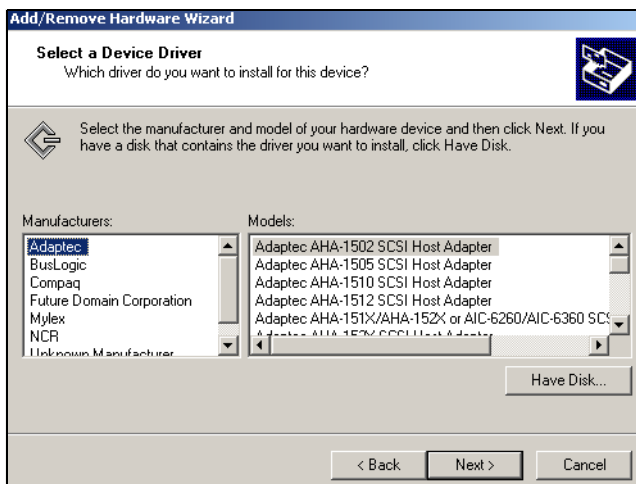

Figure 7-24 The Select a Device Driver window, click Have Disk.
20. Click the **Have Disk...** button (Figure 7-24).